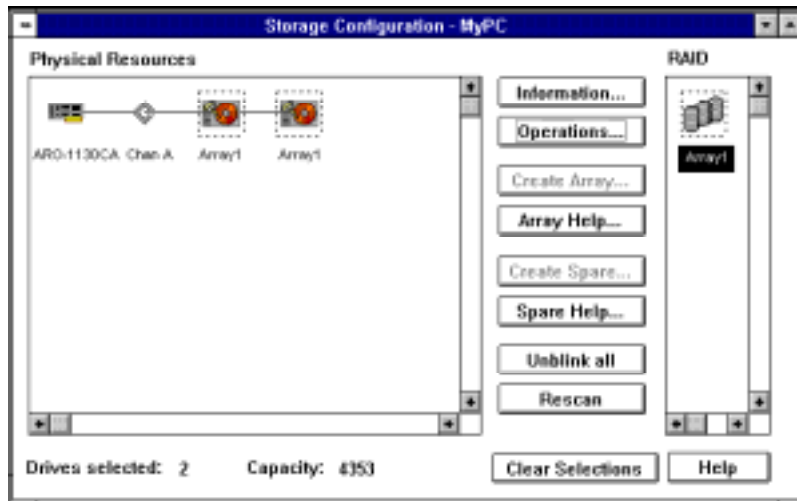

Figure 3-1. Storage Configuration Window
- 1 Start Adaptec CI/O Workstation Array Management Software and open the Storage Configuration window, as described in *Starting the Program* on page 3-1. This window looks similar to the one shown in Figure 3-1.